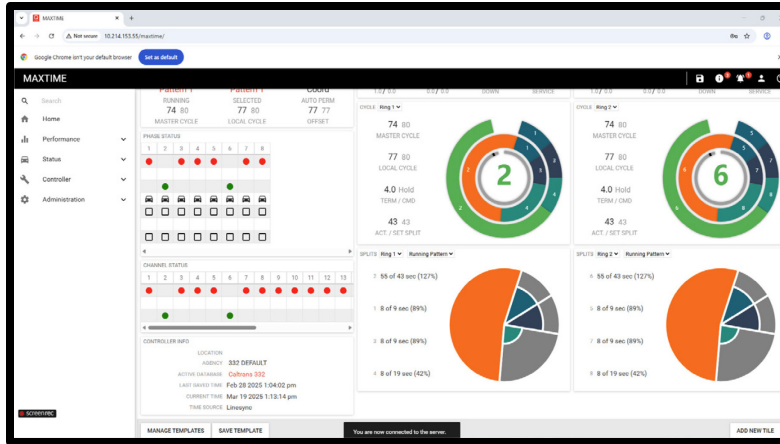

Figure 9: MAXTIME UI
Users can then access each controller used in HILS via MAXTIME by opening a browser, such as Google Chrome or Internet Explorer, and typing the IP address of the controller under consideration, as shown in Figure 9.
- viii) **IP Match Verification:** Users can verify the correct assignment of IP addresses to controllers using MAXTIME. To perform this verification, users should input the controller’s IP address into the browser on the host computer, as illustrated in Figure 7. If the IP is correctly assigned, the MAXTIME interface for the controller will appear successfully, as depicted in Figure 9. If MAXTIME is not installed on the host computer, users may use the Windows command prompt to ping the controller’s IP address. A successful ping will return replies confirming that the device is reachable; otherwise, it will indicate a connectivity issue.